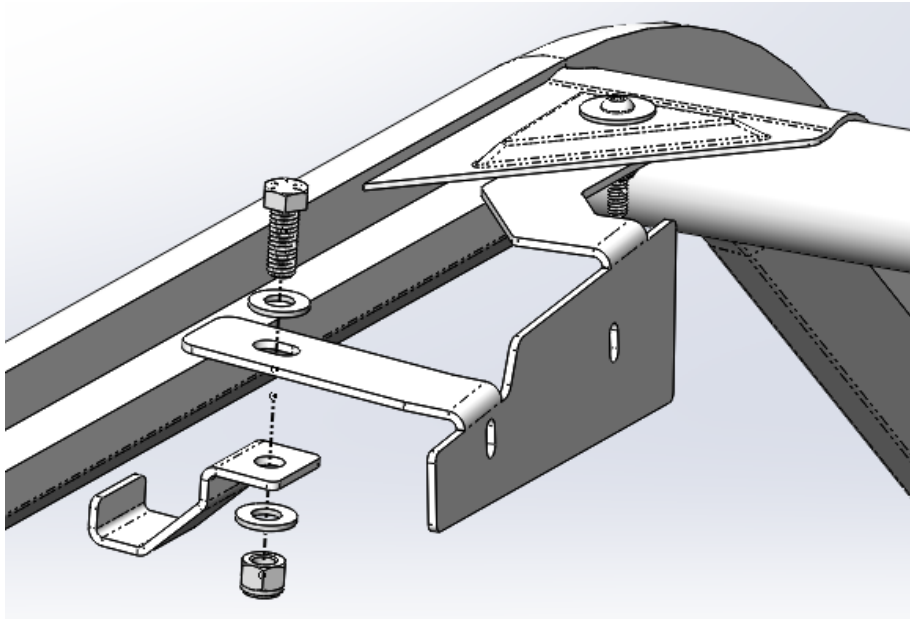

Figure 6: Mounting the clamping bracket to the frame. Driver side shown. (Passenger side similar)
3. Use the supplied 3/8"-16 bolts, washers, and nylock nuts to secure the small clamping bracket on the frame as shown. Loosely secure the nut, waiting to fully tighten it until the *Audio Mini* is in the desired position. See Figure 6. Note: Driver side shown. (Passenger side similar)